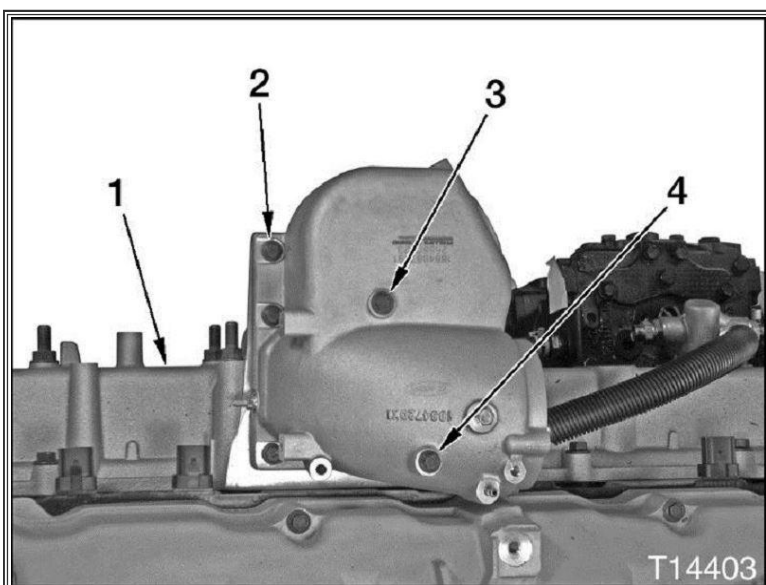

Figure 13: Air and EGR Mixer Duct Assembly
2. M8 X 40 bolt (3)
46. Loosely install M8 X170 bolt (Figure 13, Item 4).
47. Loosely install M8 X130 bolt (Figure 13, Item 3).
49. Loosely install three M8 X 40 bolts (Figure 13, Item 2).